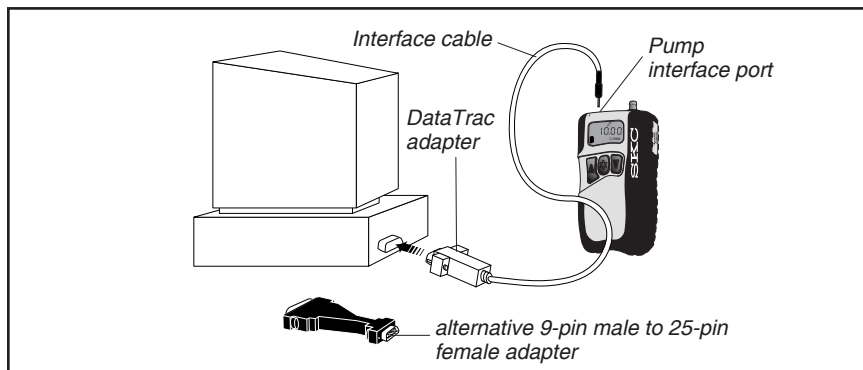

Figure 1. Hardware Setup
3. Connect the DataTrac adapter to your PC serial port. The serial port is usually a 9-pin male connector. If it is a 25-pin male connector, use the 25-pin female adapter included in the DataTrac package. Connect the other end of the adapter cable to the pump's interface port (Figure 1).